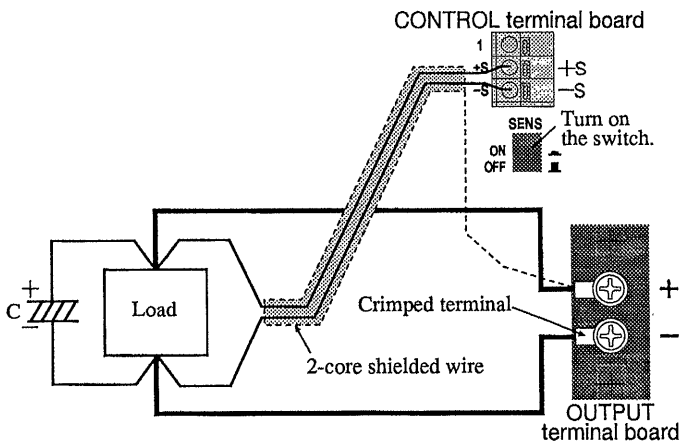

Fig. 3-4A Remote sensing connection
- ① Turn off the OUTPUT switch.
- ② Turn off the POWER switch.
- ③ As shown in Fig. 3-4A, connect the +S terminal and the + (pos.) terminal of the load, and connect the -S terminal and the - (neg.) terminal of the load.